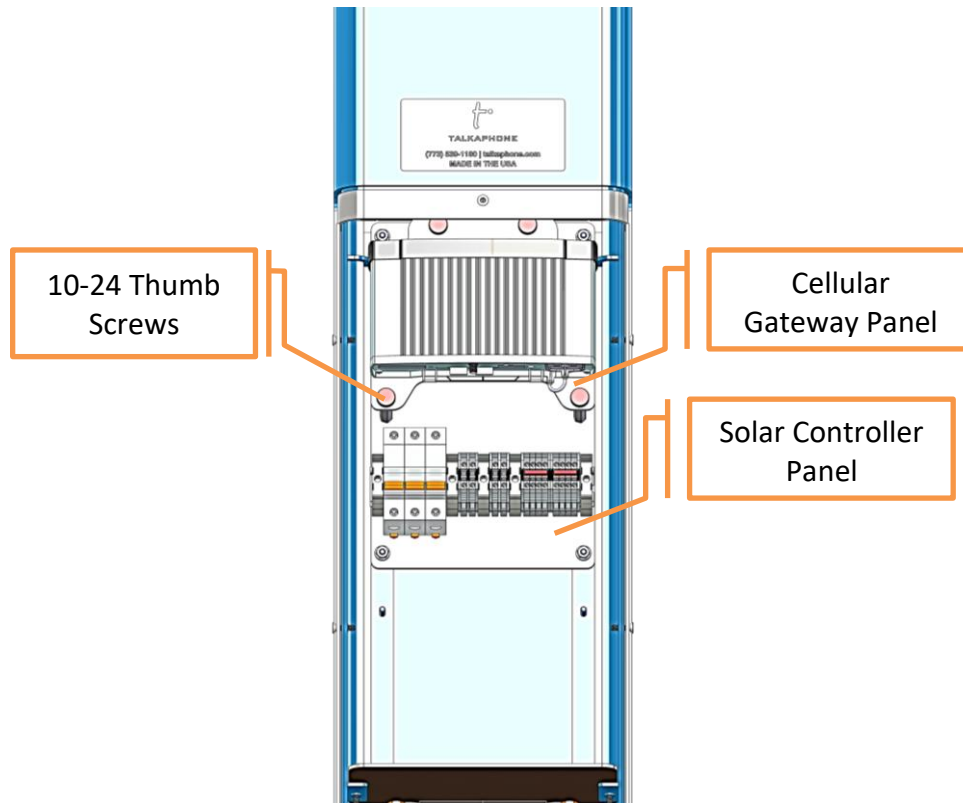

Figure 15. Installation of the Solar Controller Panel to the tower mount
3. Install the LED Blue Light on top of the pole mount base plate and feed the power cord and control / trigger wires through the pole mount all the way to the bottom of the tower. Fasten the LED Blue Light to the base plate with three (3) 10-24 tamper-resistant screws provided.
7. In the lower section of the tower remove the top mounting panel by unfastening the four (4) #10-24 hex nuts. You may discard this panel.
8. Uninstall the Cellular Gateway Panel from the Solar Controller Panel by unfastening the four (4) #10-24 thumb screws (see **Figure 15**).
9. Install the Solar Controller Panel in place on to the four (4) mounting studs on to the tower as shown in **Figure 15** (assembled) using the four (4) #10-24 thumb nuts provided.